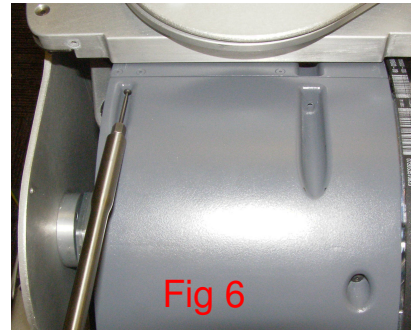

Fig 6
3. Using the 1.5mm bit with the T-handle driver, remove 1 Panhead screw. 2019-12 (Fig 6)